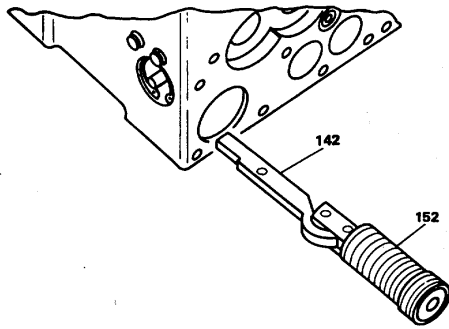

Figure 12-15. Power Piston Assembly
(10) Insert power piston (152) and floating lever (142) assembly into case per figure 12-15.